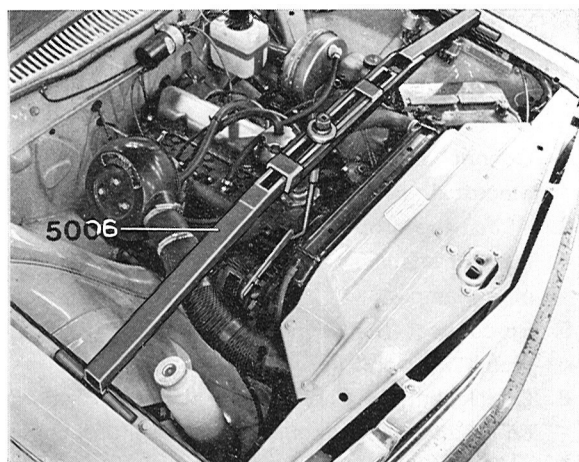

Fig. 2-19. Lifting tool 5006
1. Place the lifting tool 5006 shown in Fig. 2-19 and hook the hook round the alternator tensioning bar next to the engine block. Raise the front end of the engine until there is no weight on the engine mountings. Remove the oil dipstick.